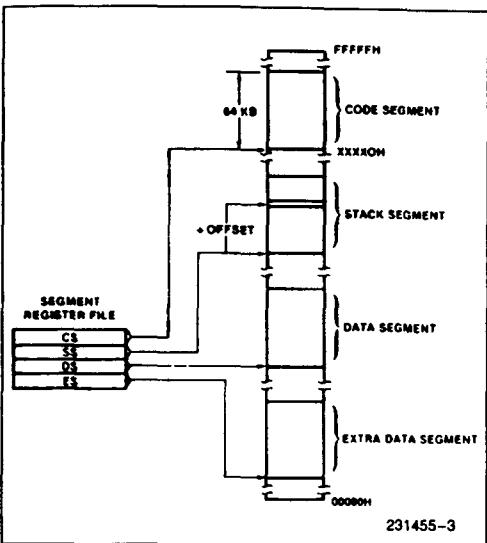

Figure 3a. Memory Organization
bytes, addressed as 0000(H) to FFFF(H). The memory is logically divided into code, data, extra data, and stack segments of up to 64K bytes each, with each segment falling on 16-byte boundaries. (See Figure 3a.)